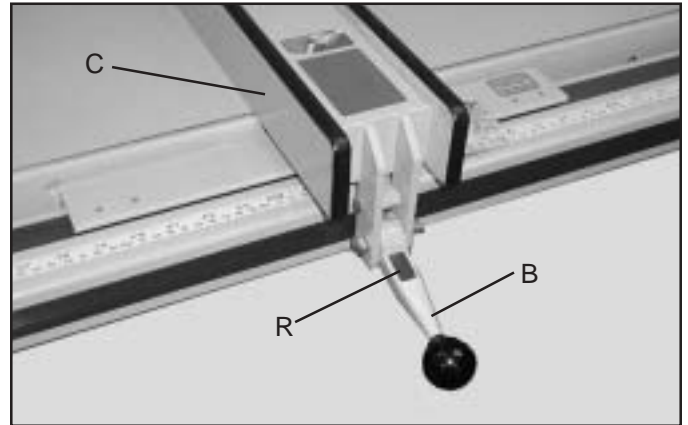
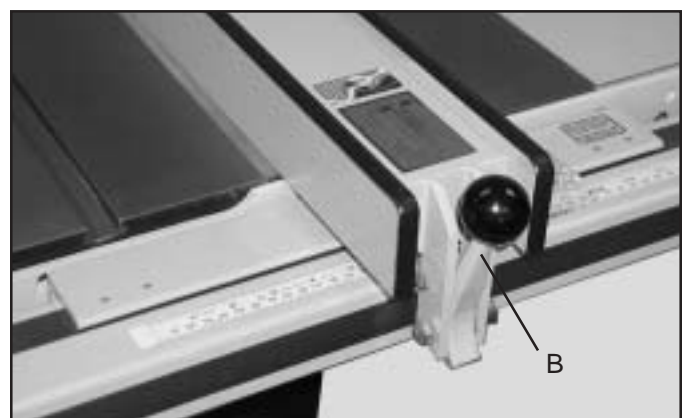

Fig. 28
Fig. 30
5. When the fence locking handle (B) Fig. 28, is pushed to the down position, the fence assembly (C) should be completely clamped to the guide tube. If the fence assembly (C) is not completely clamped to the guide tube when the handle is pushed down, as shown, lift up handle (B) and raise fence off the guide tube as shown in Fig. 27. Slightly tighten the two adjusting (J) and (K) (if the fence is too loose) or loosen (if the fence is too tight), using a 3/16" Allen wrench (N), not supplied. **NOTE: Screws (J) and (K) should be tightened or loosened an equal amount.** Replace the fence back on the guide tube and recheck to see if the fence assembly is completely tightened to the guide tube with the locking handle (B) pushed down. Adjust further if necessary.
7. To move the fence along the guide tube, simply lift up the locking handle (B) Fig. 30, as shown, slide the fence to the desired position on the guide, and push down locking handle (B) Fig. 28 as shown, to lock in position. **NOTE:** A magnet (R) Fig. 28, is provided to hold the handle in the up position when moving the fence.